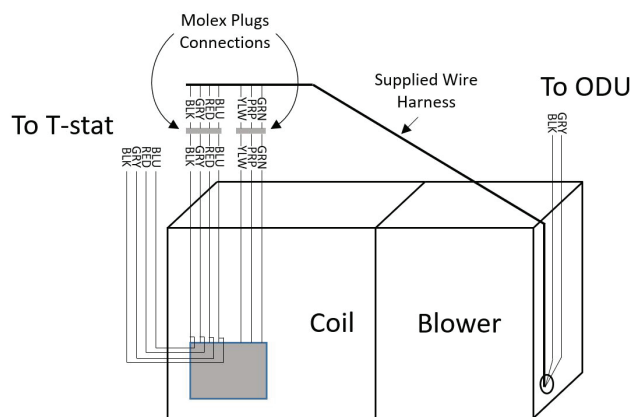

Figure 29
8. View Figure 29 for reference of Wire Harness Setup.